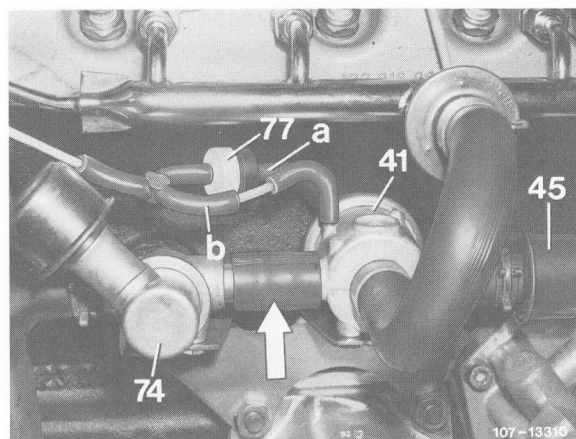

Fig. 82
Connect CO tester. Pull off rear or upper vacuum line (a) from anti-backfire valve (Fig. 82)
Reconnect vacuum line to anti-backfire valve. Remove air filter for noise suppression (45) from anti-backfire valve (41) (Fig. 82). Hold one hand in front of air hose and fully accelerate briefly.
a) Remove air filter for noise suppression (45). Run engine at idle. Pull off vacuum line (a) from anti-backfire valve (Fig. 82). Air must flow from air hose. If no air is emitted, check air pump. To do so, pull off air hose (arrow, Fig. 82) from the air pump on the anti-backfire valve.